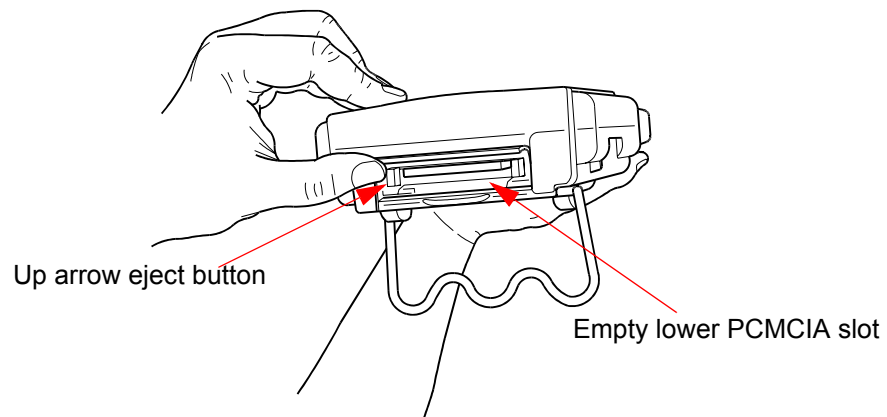
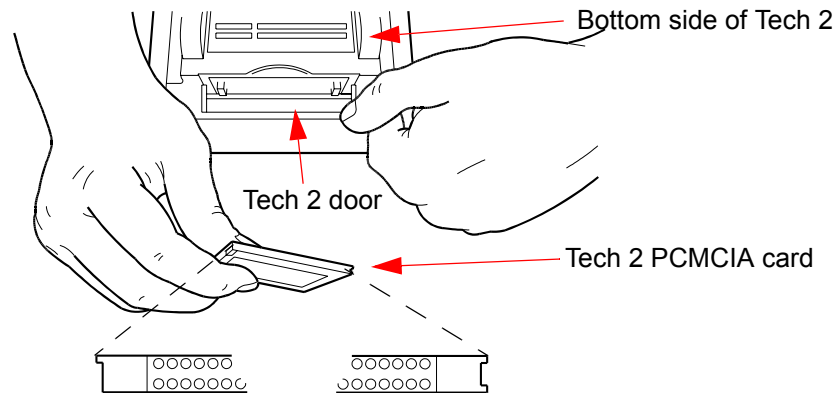
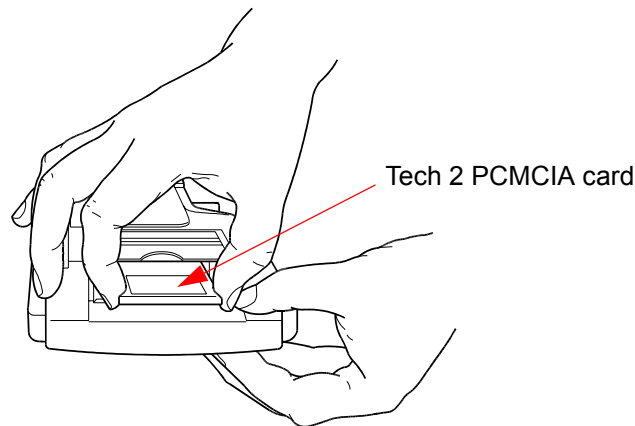

FIGURE 3-8. Ejection of PCMCIA Card
FIGURE 3-9. PCMCIA Card Keying
FIGURE 3-10. PCMCIA Card Insertion
The PCMCIA Card is accessed by opening the hinged door located at the top of the Tech 2. The card is found in the upper slot. The lower slot will be used for future enhancements. Press the "up arrow button" (located on the left hand side of the Tech 2) to eject the card (Figure 3-8).
The PCMCIA Card is keyed with two notches on one side and one notch on the other side (Figure 3-9). Make sure that the notches are in the correct position before inserting the card. Slowly insert the card (Figure 3-10) until it clicks into place.
- Make sure the PCMCIA card is fully inserted into the upper slot at the top of the Tech 2 (Figure 3-8, Figure 3-9, and Figure 3-10).